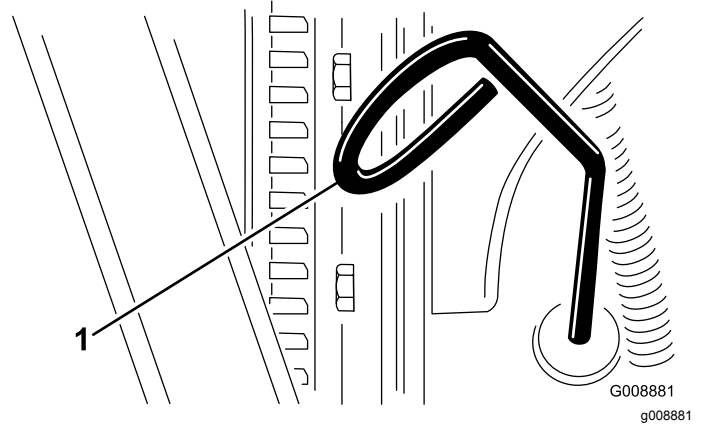

Figure 43
3. Remove the dipstick, wipe it clean, and install it (Figure 43).